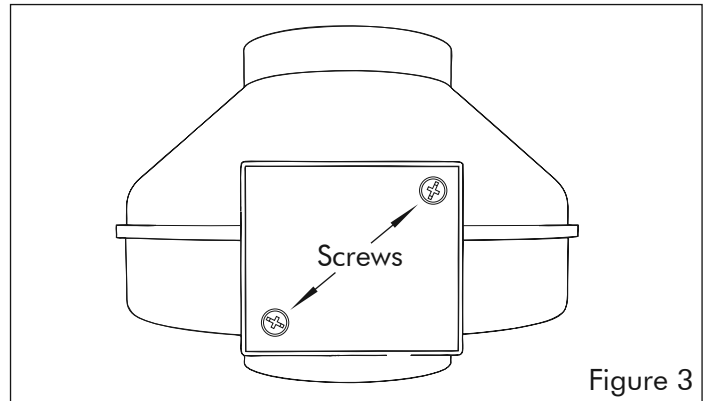

Figure 3
- Remove the screws securing the terminal box cover plate located on the side of the fan (1) (see figure 3). All fan motor connections are pre-wired to an electrical terminal strip. A 3/8" romex type cable restraint connector will be needed to secure the wiring through the knockout provided on the side of the terminal box.
3. Cut a 6" round hole for the expansion vent grille (2).
4. Install the expansion vent grille (2) by pushing it firmly into the steel collar until it is shouldered by the ceiling material (see figure 3 on page 9).